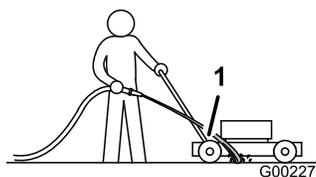

Figure 24
- Hold the running garden hose at handle level and direct the water to flow on the ground just in front of the right rear wheel (Figure 24).